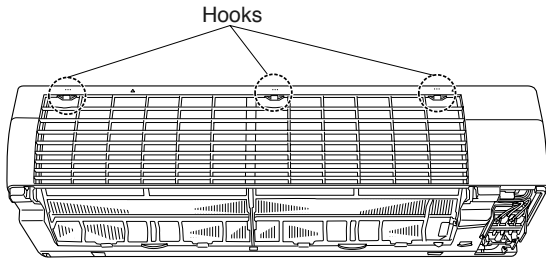

Fig. 11
- (2) Disengage the 3 hooks on the upper part. (Fig.11)